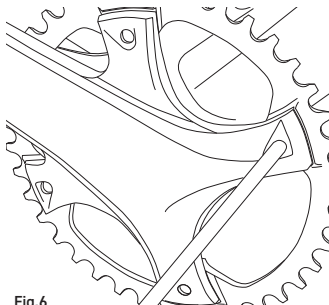

Fig.6
- **ONLY FOR EKAR:** The screws can also be reached from the outer side of the bicycle, but be careful not to damage the surface of the crankset and make sure that the spanner direction of rotation is therefore opposite to the normal direction (Fig. 6).